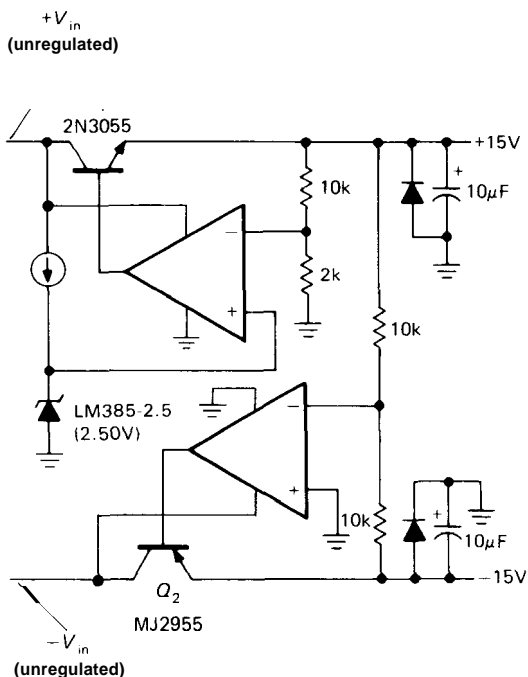

Figure 6.34. Dual-tracking regulator.
□ **Dual tracking regulators.** Given the need for regulated split supplies, you might wonder why there aren't "dual 3-terminal regulators." Wonder no more - they exist and are known as "dual tracking regulators." To understand why they have such a complicated name, take a look at Figure 6.34, which shows the classic dual tracking regulator circuit. Q_1 is the pass transistor for a conventional positive regulated supply. The positive regulated output is then simply used as the reference for a negative supply. The lower error amplifier controls the negative output by comparing the average of the two output voltages with ground, thus giving equal 15 volt positive and negative regulated outputs. The positive supply can be any of the configurations we have already talked about; if it is an adjustable regulator, the negative output follows any changes in the positive regulated output. In practice, it is wise to include current-limiting circuitry, not shown in Figure 6.34 for simplicity.